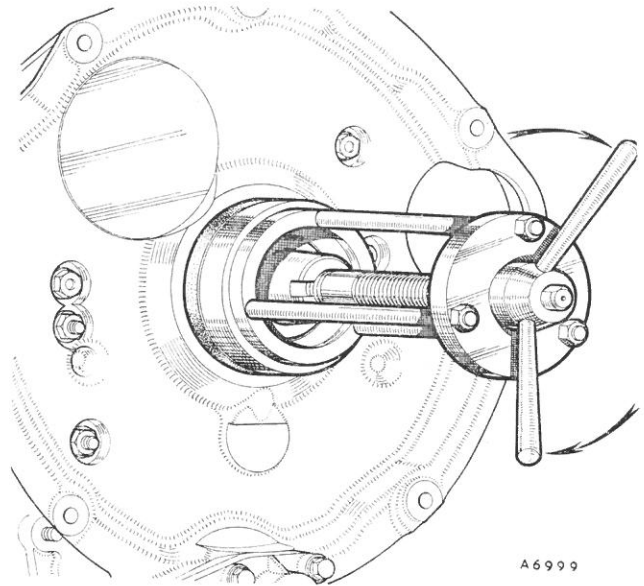

Fig. Aa.20
- (6) Screw in the short threaded end of Service tool 18G 1068 A securely into the crankshaft.
- (7) Liberally lubricate the new oil seal.
- (8) Assemble the new seal together with Service tool 18G 1068 into position (see Fig. Aa.20).
- (9) Screw in the wing nut of the tool until the seal is pressed in to the depth of the measurement (see item (5)).
- (10) The remainder is a reversal of the removing procedure.
- (11) Check and top up oil level (Section Aa.1).